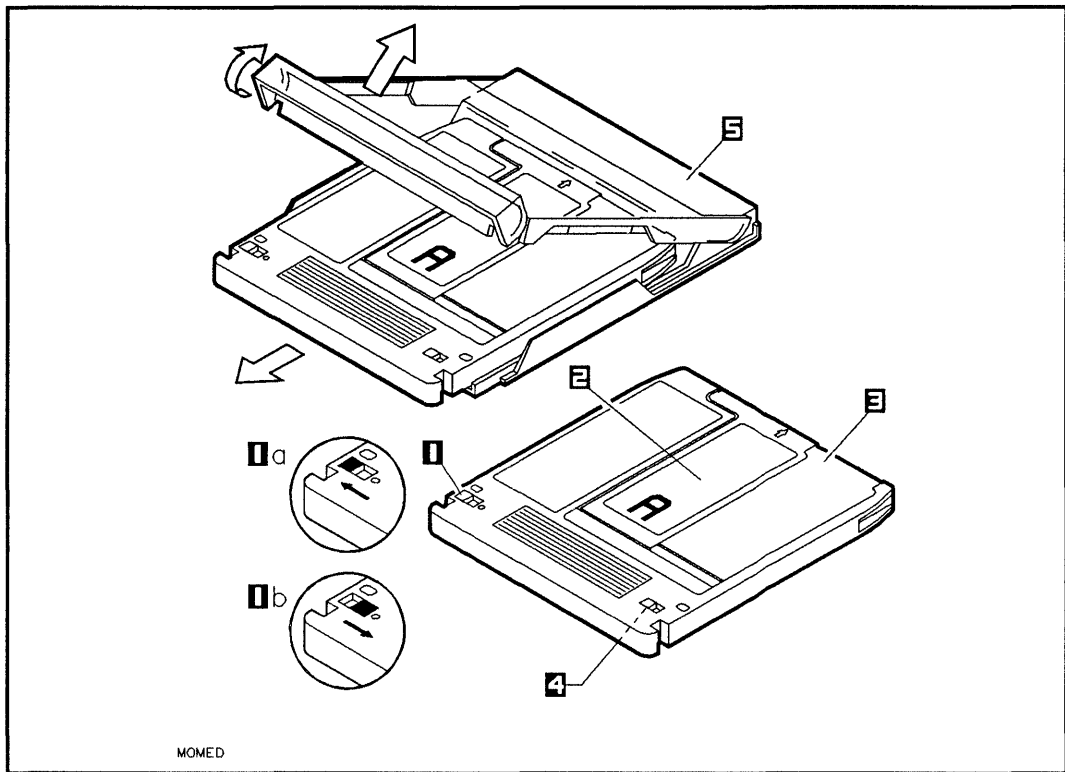

Figure 3-1. Rewritable Optical Disk and Case, Side A
Rewritable optical disks are 5.25 inches in diameter and are made from a polycarbonate material coated with a magnetic layer on both sides, where data is stored in digital format. The disk is mounted in a rigid plastic case similar to a 3.5-inch magnetic flexible disk (see Figure 3-1). Rewritable optical disks have two recording sides, with a data capacity of 325 megabytes per side, for a total capacity of 650 megabytes per disk. Because the rewritable optical disk drive contains only one read/write head, a disk must be ejected, turned over, and loaded into the disk port again to access the other side.
Data is stored and retrieved through a window beneath the shutter (see Figure 3-1). When you load rewritable optical disk into the disk port, the shutter opens automatically to expose the disk surface. When you eject the disk from the disk port, the shutter closes over the window to protect the disk surface.
The write-protect tab on either side of the magneto-optical (MO) disk can be switched between the write-protect and write-enable positions. The write-protect position protects valuable programs and data from being over-written (see Figure 3-1). When a rewritable optical disk is write-protected, data can only be read from the disk; no data can be written onto the disk.